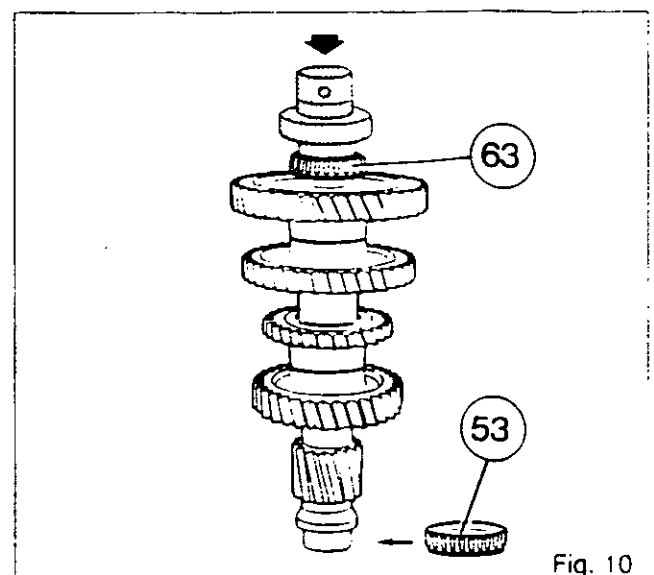

Fig. 10
23. Press on cones (63) and (53) with a suitable press tool (Fig.10).
24. Refit cup (52) and replace the assembled shaft.